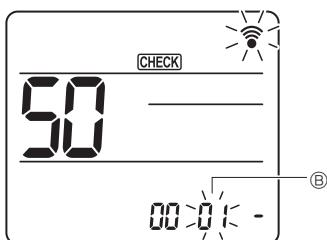

Fig. 6-18
③ Select a mode
Press the **[▼]** button to set Mode number ⑤. (Fig. 6-18)